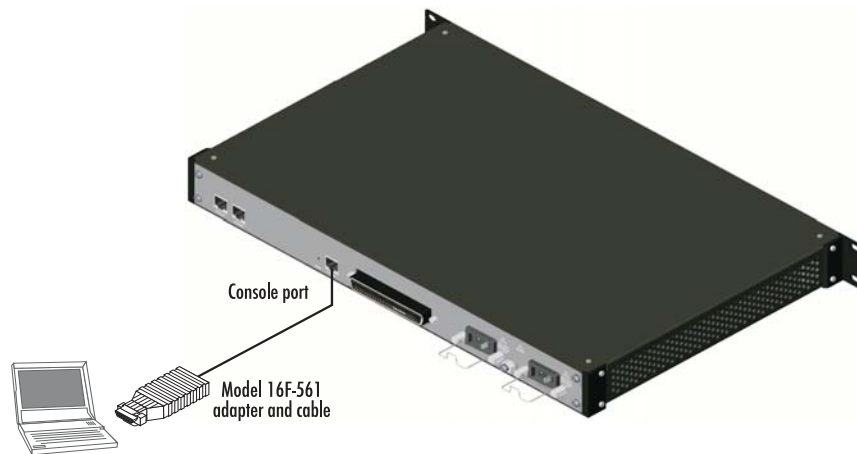

Figure 14. Connecting the SmartNode to your laptop PC
1. **Configuring the desired IP address** (see figure 14). Refer to section “2. Connecting the SmartNode to the network” on page 43 for details.